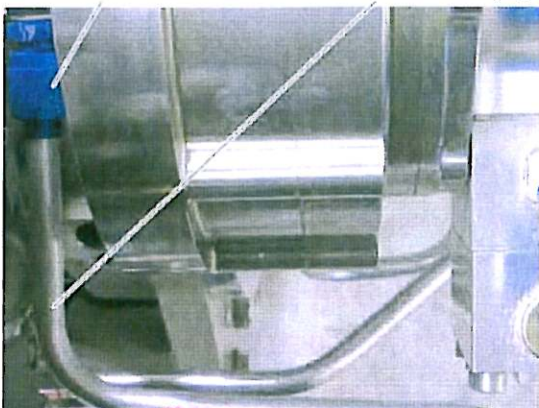

Figure 3
3. *Detach the union of the aluminium pipe nut at the rotary feed-through while holding the adapter steady. See Figure 3.*